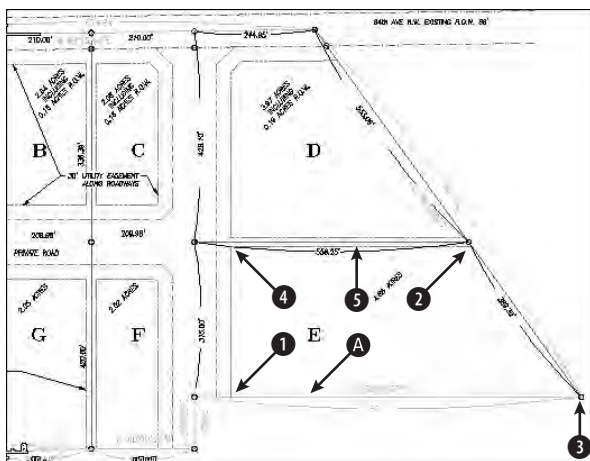
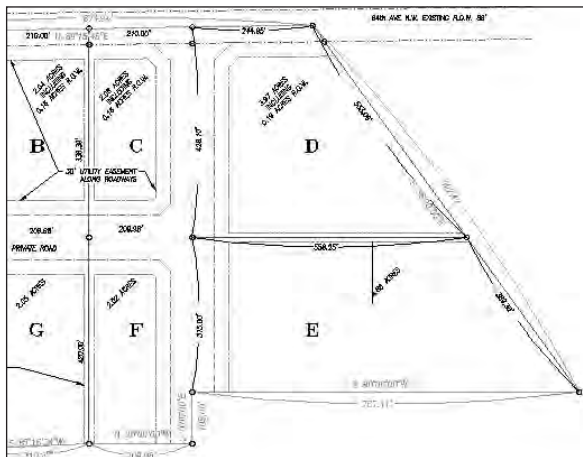

Figure 12-15: Parcels D and E in the civil engineering drawing
Figure 12-16: Using CAL, you can calculate the intersection of two lines without drawing the lines.
3. If you did not do the previous exercise, use `ZOOM Window` to zoom in to the parcels labeled D and E, as shown in Figure 12-15.
5. In the Step-by-Step exercise on the `DIVIDE` command earlier in this chapter, you divided a line into three segments by placing two points on the line. You can use `CAL` to calculate the length of those segments. Type `cal ↵`. At the `Expression:` prompt, type `abs(end-end)/3 ↵`. AutoCAD prompts you for the two endpoint snaps. Pick the two ends of the line at A in Figure 12-15. AutoCAD calculates 262.37.
6. Suppose that you want to draw a line starting from the intersection of two intersecting lines going from corner to diagonally opposite corner and ending perpendicular to the top line of the land parcel. Start the LINE command. At the Specify first point: prompt, type 'cal ↵. At the Expression: prompt, type **ill(end,end,end,end)** ↵. AutoCAD prompts you for four endpoints. Pick the endpoints (in Figure 12-15) at ❶ and ❷ to define the first line, and then at ❸ and ❹ to define the second line. AutoCAD starts the line at the intersection of the two lines. At the Specify next point or [Undo]: prompt, choose the Perpendicular object snap and pick ❺. Figure 12-16 shows the result.